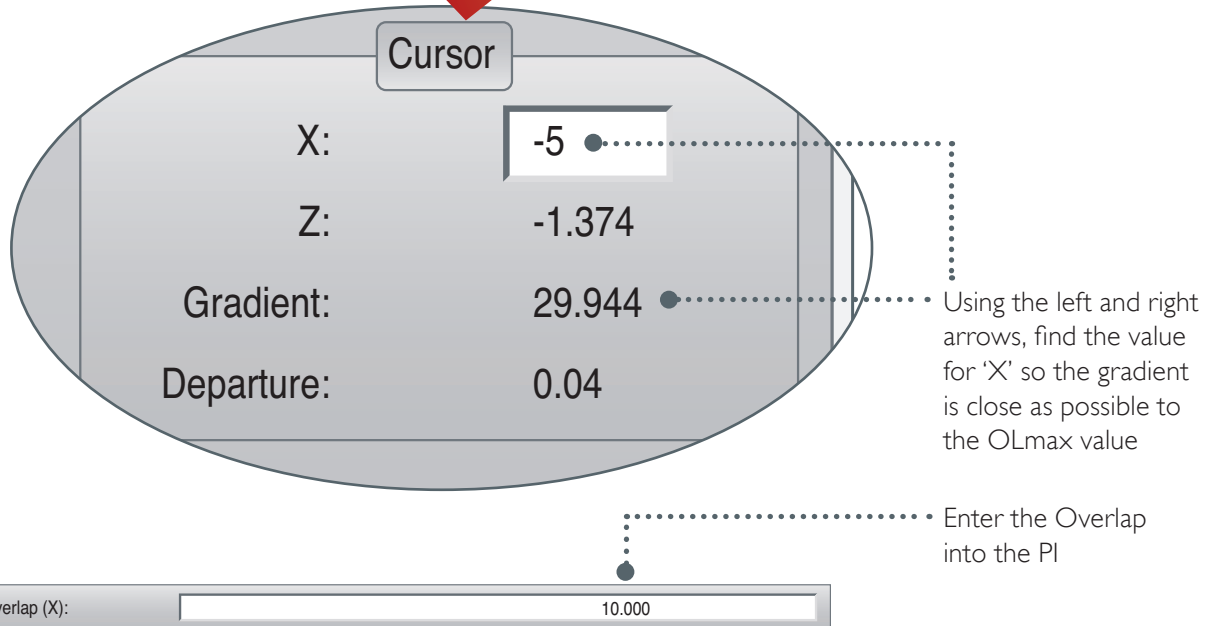

Figure 3: The overlap value entered into the production interface
- 4 Double the ‘X’ value to find the maximum overlap and enter this in the PI in mm (Figure 3)